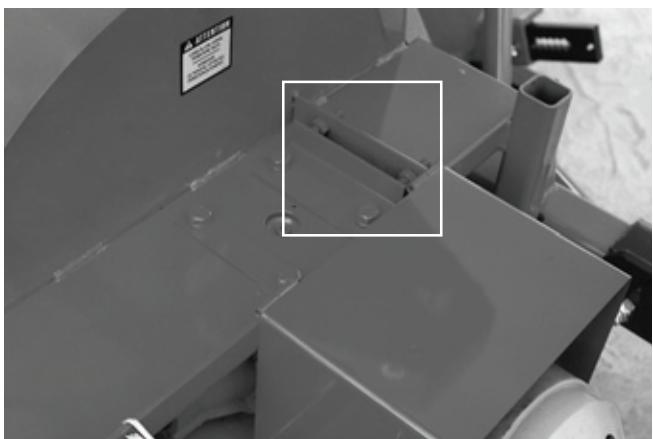

Figure 30
- 8) Check impeller adjustment. The tip of the blades should be approximately 1/8" to 3/16" from the discharge wall of the drum. If necessary, adjust with the take-up screws provided (Fig. 30).